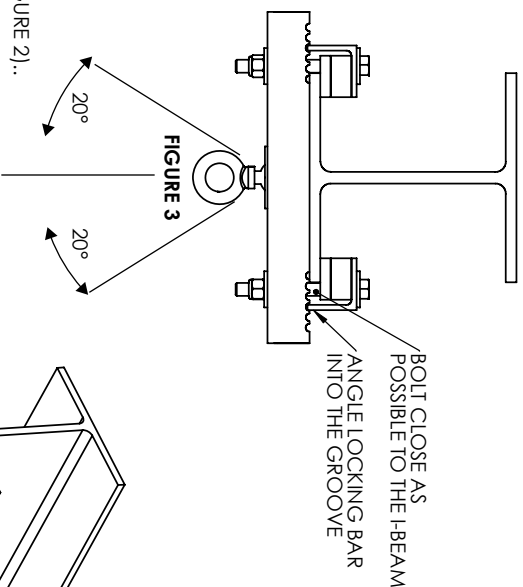

FIGURE 3
- MAKE SURE THE ANGLE LOCKING BAR SITS INSIDE ONE OF THE GROOVES OF THE CHANNEL EDGES AND THAT THE BOLTS ARE CLOSE AS POSSIBLE TO THE I-BEAM (FIGURE 3)